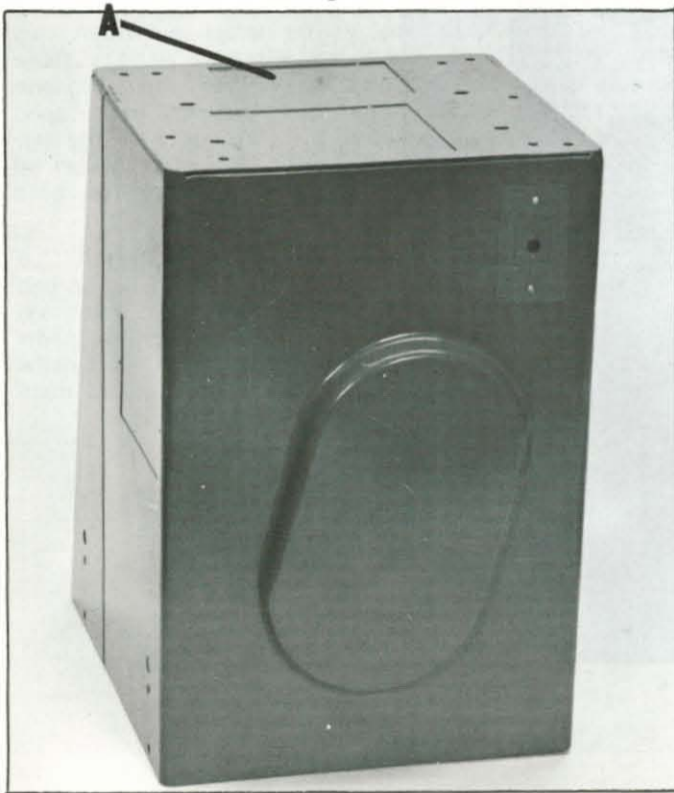

Fig. 4
If you purchased your band saw with separate stand and electricals NOT factory mounted and wired, the stand is supplied as shown in Fig. 4. Remove the small knockout (A) Fig. 4, located on top of the stand and proceed as follows to assemble the motor plate, motor, motor pulley and switch: